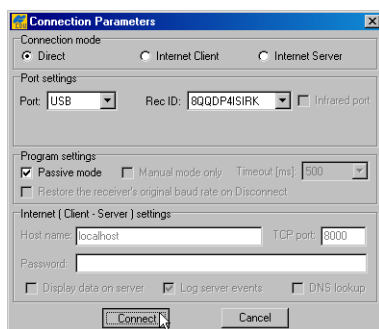

Figure 1-3. FUSB Connection Parameters
4. Click **Connect** (Figure 1-3).